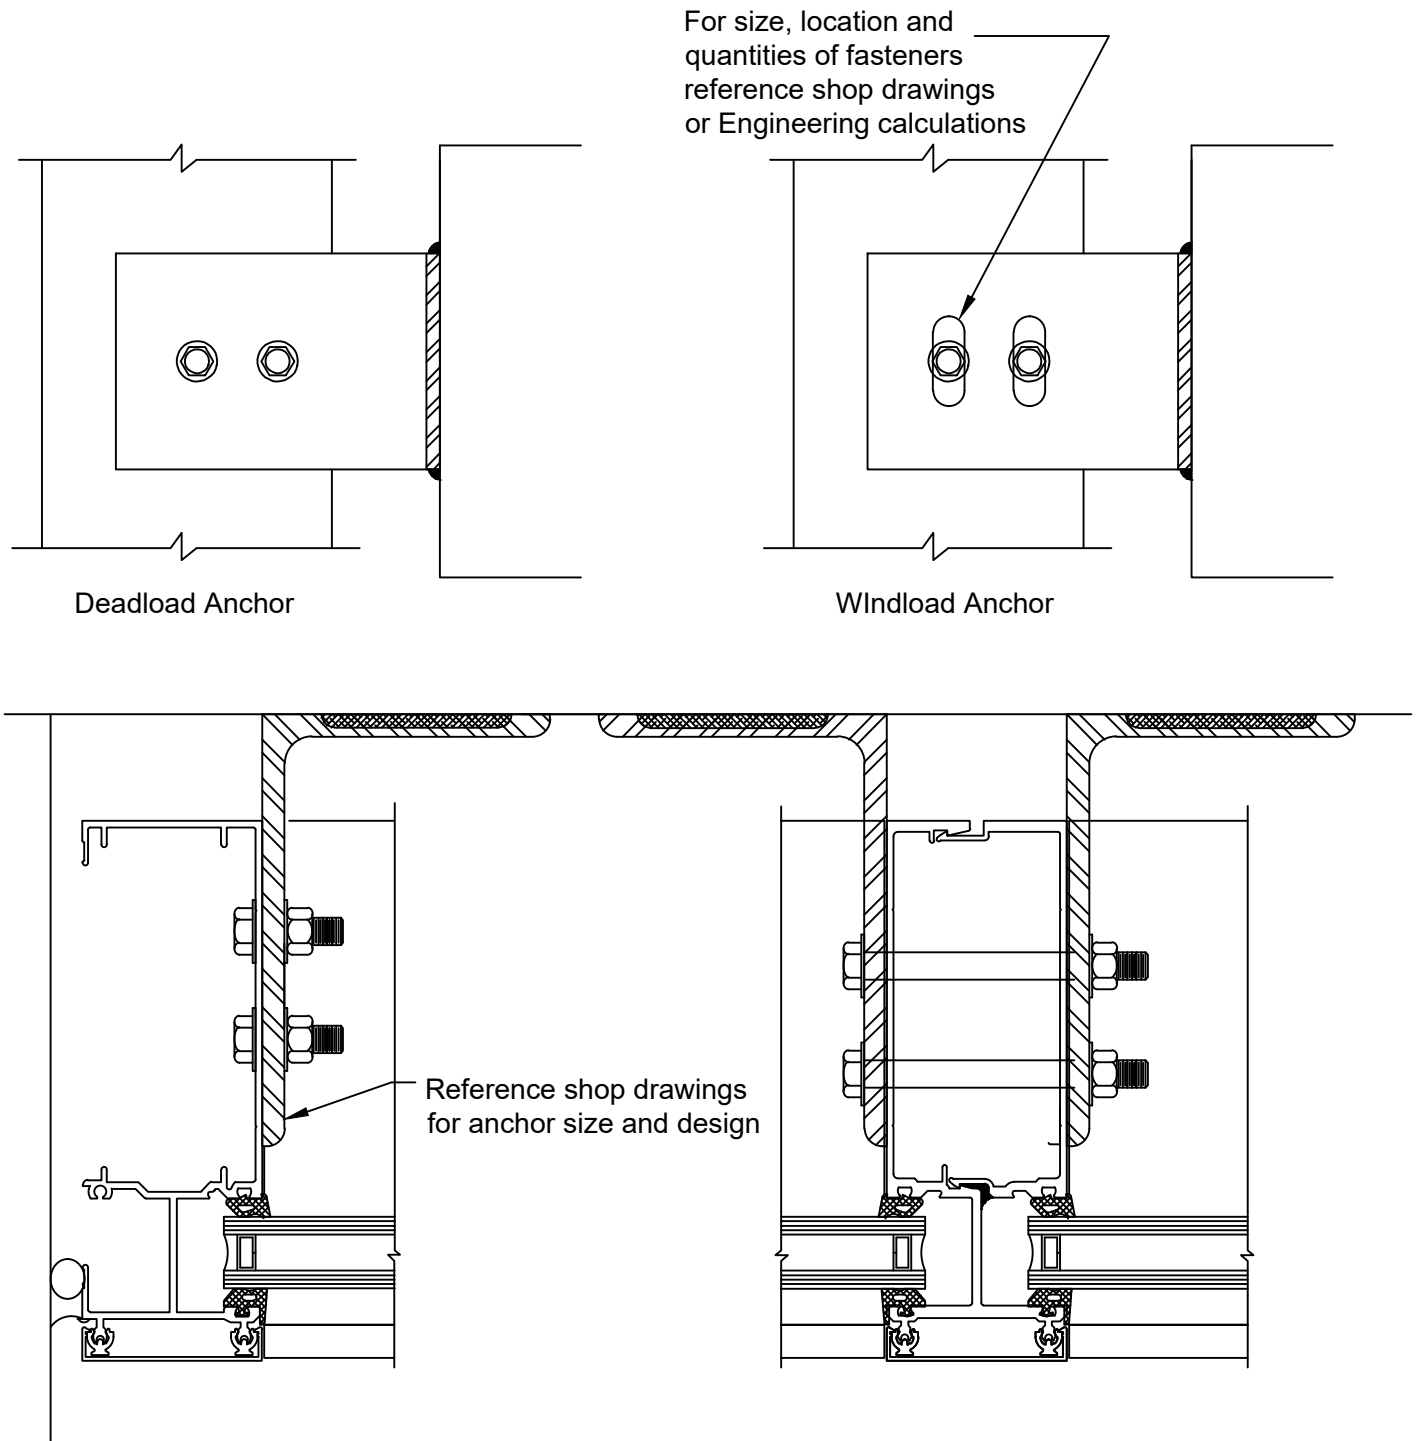

FIGURE 19
- 3.10 Mid span anchors will be located based on engineer's calculations. Typical anchors are shown in FIGURE 19, Size and design of anchor, as well as, bolt size and quantity to be based on project requirements and engineer's calculations.